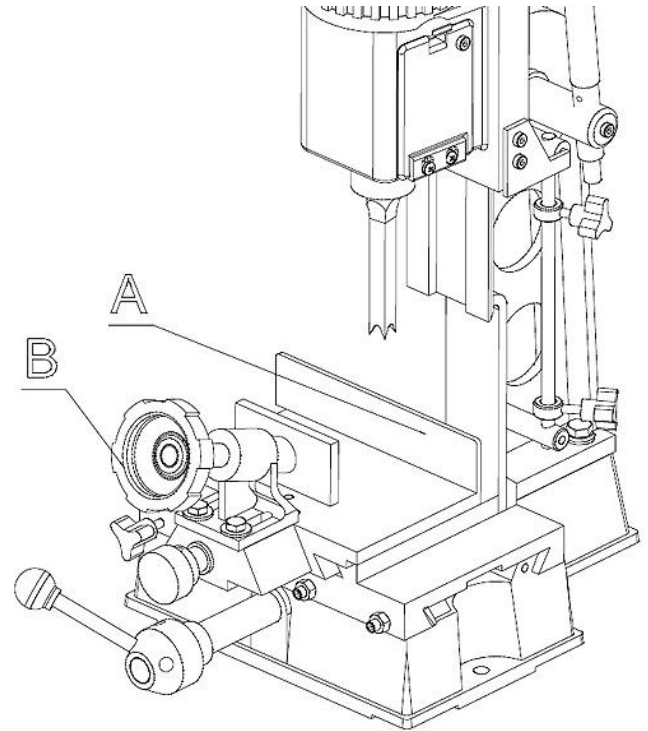

Fig 5
- The fence (A) Fig. 5, can be moved in or out by loosening lever (B), sliding fence to the desired position and tightening lever (B).